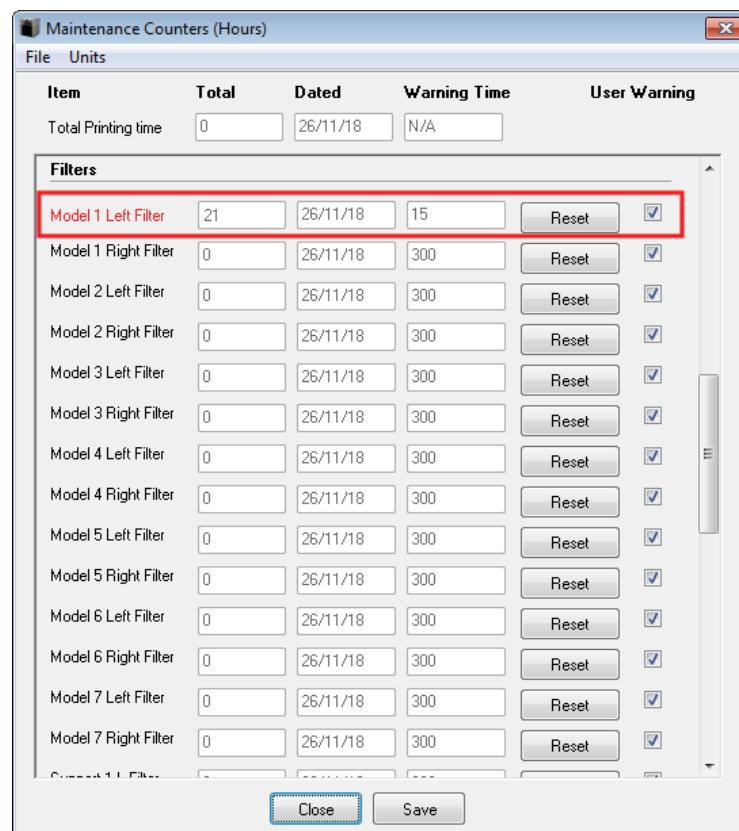

Figure 4-122 Maintenance Counters screen, showing material filters
17. In the *Maintenance Counters* screen, click *Reset* and then *Close* (see Figure 4-122 on page 4-82).